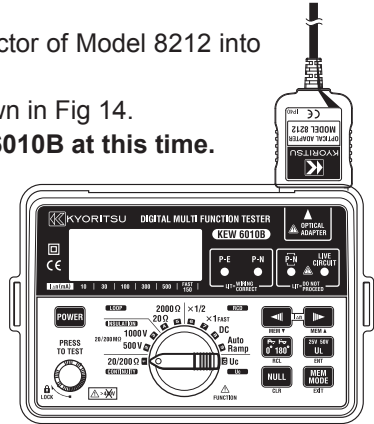

Fig 14
- (1) Firmly insert the D-SUB 9Pin female connector of Model 8212 into the socket (D-SUB 9Pin male) of PC.
- (2) Insert Model 8212 into KEW 6010B as shown in Fig 14.